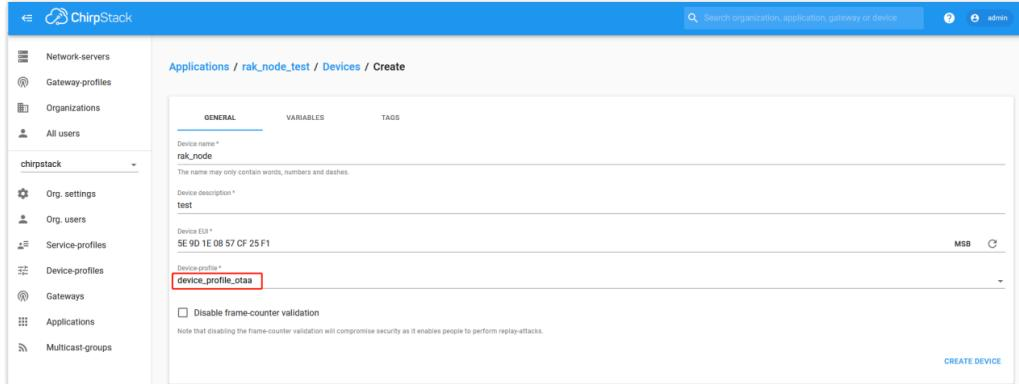

Figure 205: Chirpstack OTAA activation
- If you have selected **DeviceProfile_OTAA**, as shown in **Figure 205**, then after the device is created, an Application Key must be also created for this device.